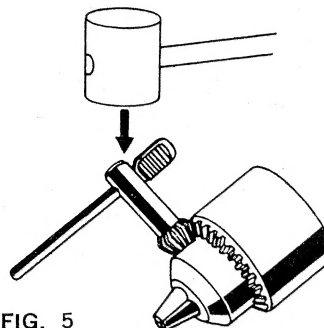

FIG. 5
3. Place key in chuck as shown in Figure 5. Using a wooden mallet or similar object, strike key sharply in a COUNTER-CLOCKWISE direction (Figure 5). This will loosen chuck so that it can be unscrewed by hand.